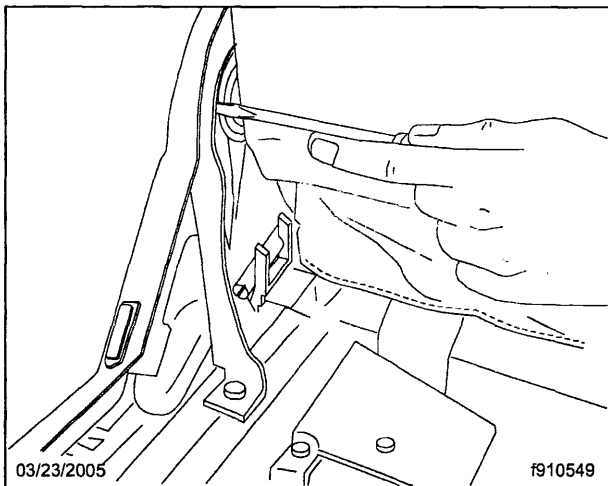

**Fig. 1, Locate the Access Hole**
3. Fully extend the seat cushion, then pull back the cushion trim on the side of the seat that has the controls. Locate the access hole to the leaf spring. See **Fig. 1**.